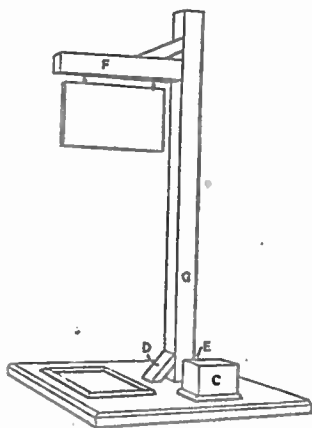

Fig. 3—The main assembly
A strip of wood  $\frac{1}{2}$  in. square is cut 12 ins. long (G, Fig. 3). This slots into the hole (A) to form the sign post. It may be left square at the top or shaped
post two supports are added (D and E). These are made from  $\frac{1}{2}$  in. square strips, and glued or pinned on to the post and base (Fig. 3).